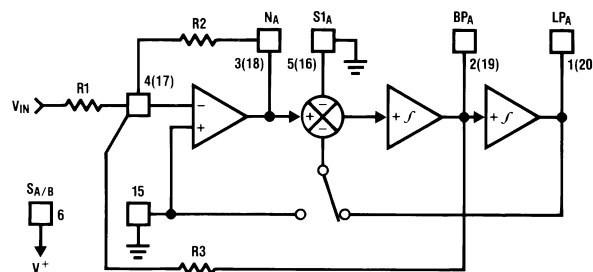

Figure 23. MODE 1
$$f_{\text{notch}} = f_o \text{ (See Figure 23)} \quad (2)$$